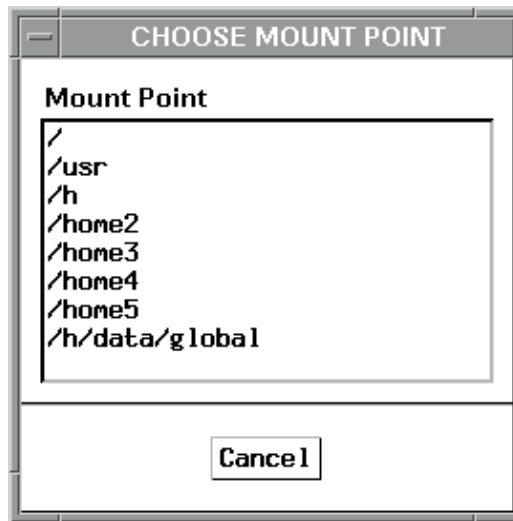

Figure 15. CHOOSE MOUNT POINT Window
- (b) Toggle on the `Popup` checkbox, located to the left of the MOUNT POINT field, to open the CHOOSE MOUNT POINT window (Figure 15). Click on a mount point from the scroll list to select it. The MOUNT FILE SYSTEM window reappears with the new mount point in the FILE SYSTEM field.
(b) Toggle on the `Popup` checkbox to the left of the MOUNT POINT field to open the CHOOSE MOUNT POINT window (Figure 15). Click on a mount point from the scroll list to select it. The MOUNT FILE SYSTEM window reappears with the new mount point in the FILE SYSTEM field.